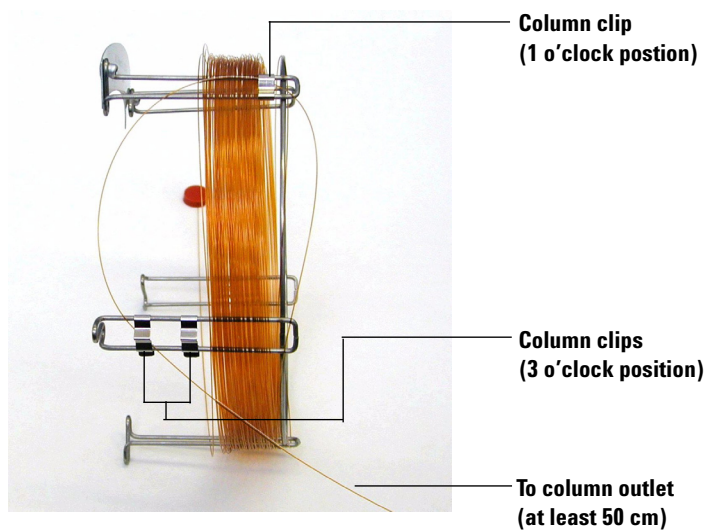

Figure 6 Column fed through 3 o'clock position
- 5 Next, feed the outlet side of the column through the 3 o'clock positioned clips so that the column outlet is pointing toward the back of the column cage. Make sure that the part of the column that is between the two clips does NOT extend above the column label. See Figure 6.